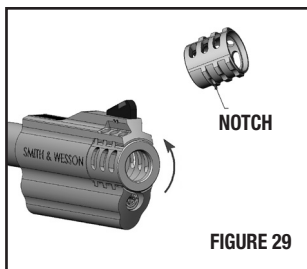

FIGURE 29
2. Rotate the compensator with your fingers either left or right so that the notch is facing down (in the 6 o'clock position) (FIGURE 29).